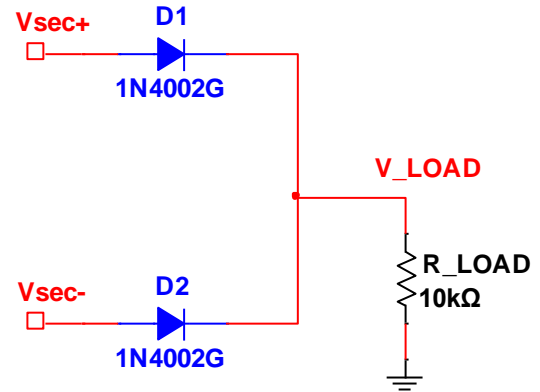

Fig. 2: Full-wave rectifier circuit. The Vsec+ and Vsec- come from the red and yellow terminals on your breadboard.
- **Step 1a:** Build the full-wave rectifier shown in Fig. 2.